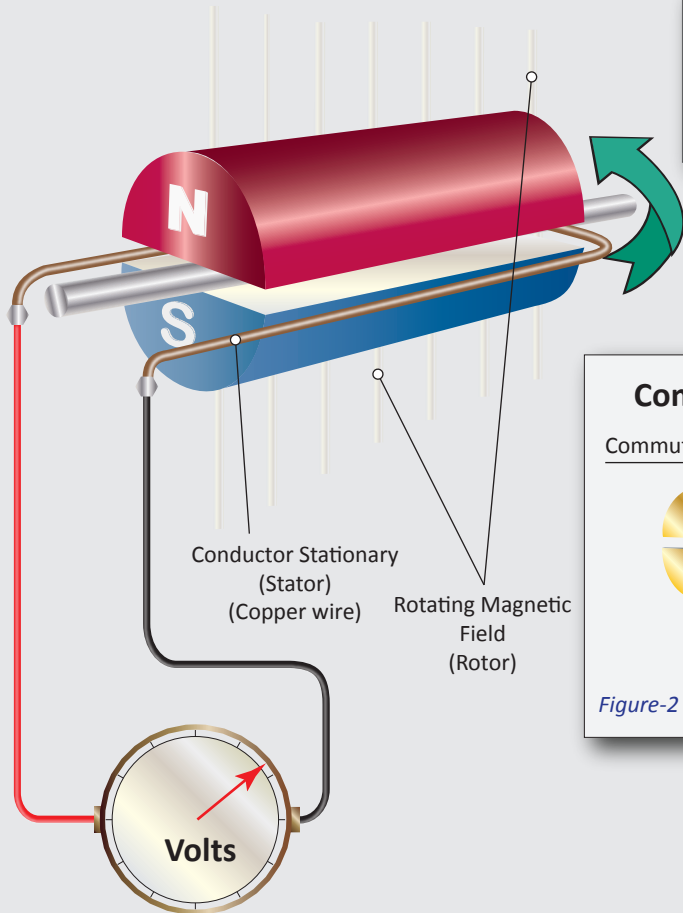

Figure-3
3.2 BRUSHLESS GENERATOR – In a brushless generator design the rotor is the magnetic field, as the rotor rotates the magnetic field transverses the wires of the stator, this still follows Faraday’s law, but the magnetic force is now moving across the copper wire conductors see **Figure-3**.